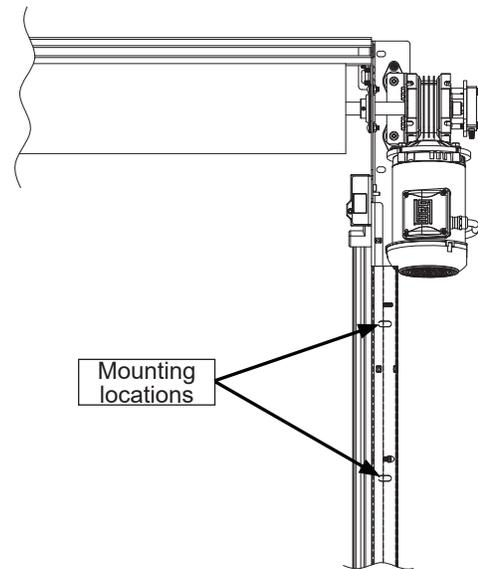

Figure 9: Mounting locations
7. Mount Face Frames using hardware appropriate for the wall construction (supplied by installer) in the mounting slots provided in the Face Frames (Figure 9).